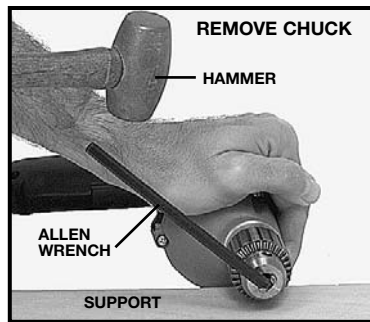

Fig. 5
4. Place the short end of a large allen wrench ( $\frac{1}{4}$ " or larger) into the chuck. Align wrench flats with chuck jaws and tighten chuck securely using chuck key. While supporting chuck on a solid surface, position allen wrench to left (see Fig. 5) and strike wrench a sharp blow with a hammer to loosen chuck. Turn chuck counterclockwise to remove.